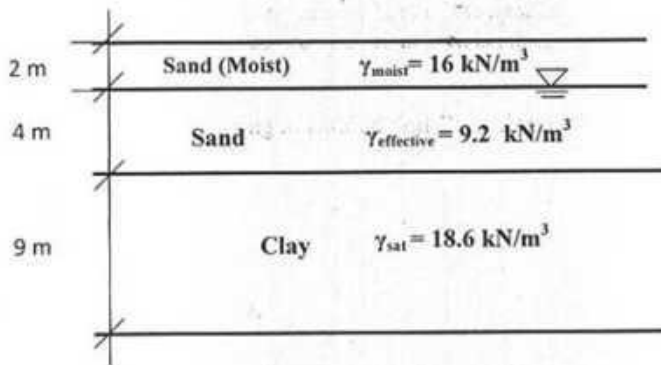

Figure 1
6. A clay stratum of thickness 9 m is located at a depth of 6 m below the ground surface (Figure 1). It is overlain by fine sand. The water table is located at a depth of 2 m below the ground surface. For sand, effective unit weight is  $9.2 \text{ kN/m}^3$ . The moist unit weight of sand located above water table is  $16 \text{ kN/m}^3$ . For clay layer, saturated unit weight is  $18.6 \text{ kN/m}^3$ . Compute the effective stress, the total stress and the pore water pressure at the bottom of the clay layer. Also compute the total and effective stresses at the bottom of the clay layer, if water level in the sand is suddenly lowered by 1.5 m.